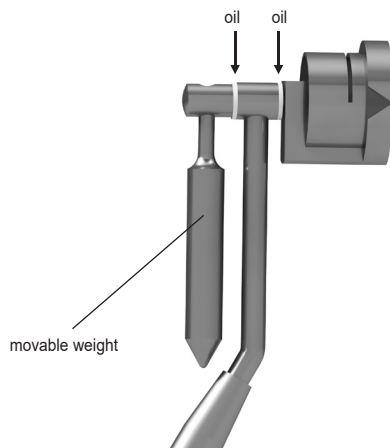

Fig. 3
- Apply the instrument oil selectively on the area that needs it (Fig. 3).